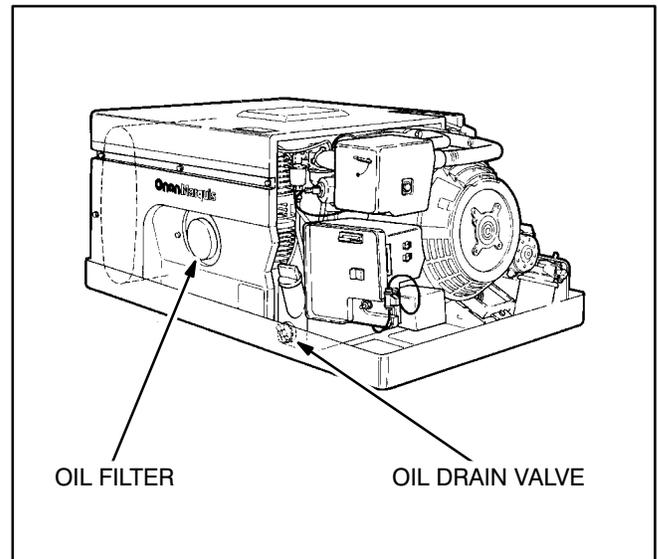

FIGURE 13. OIL DRAIN PLUG AND OIL FILTER
2. Unscrew the oil fill cap and open the oil drain valve (Figure 13) to drain all oil from the engine. **Close the drain valve when finished draining oil.**